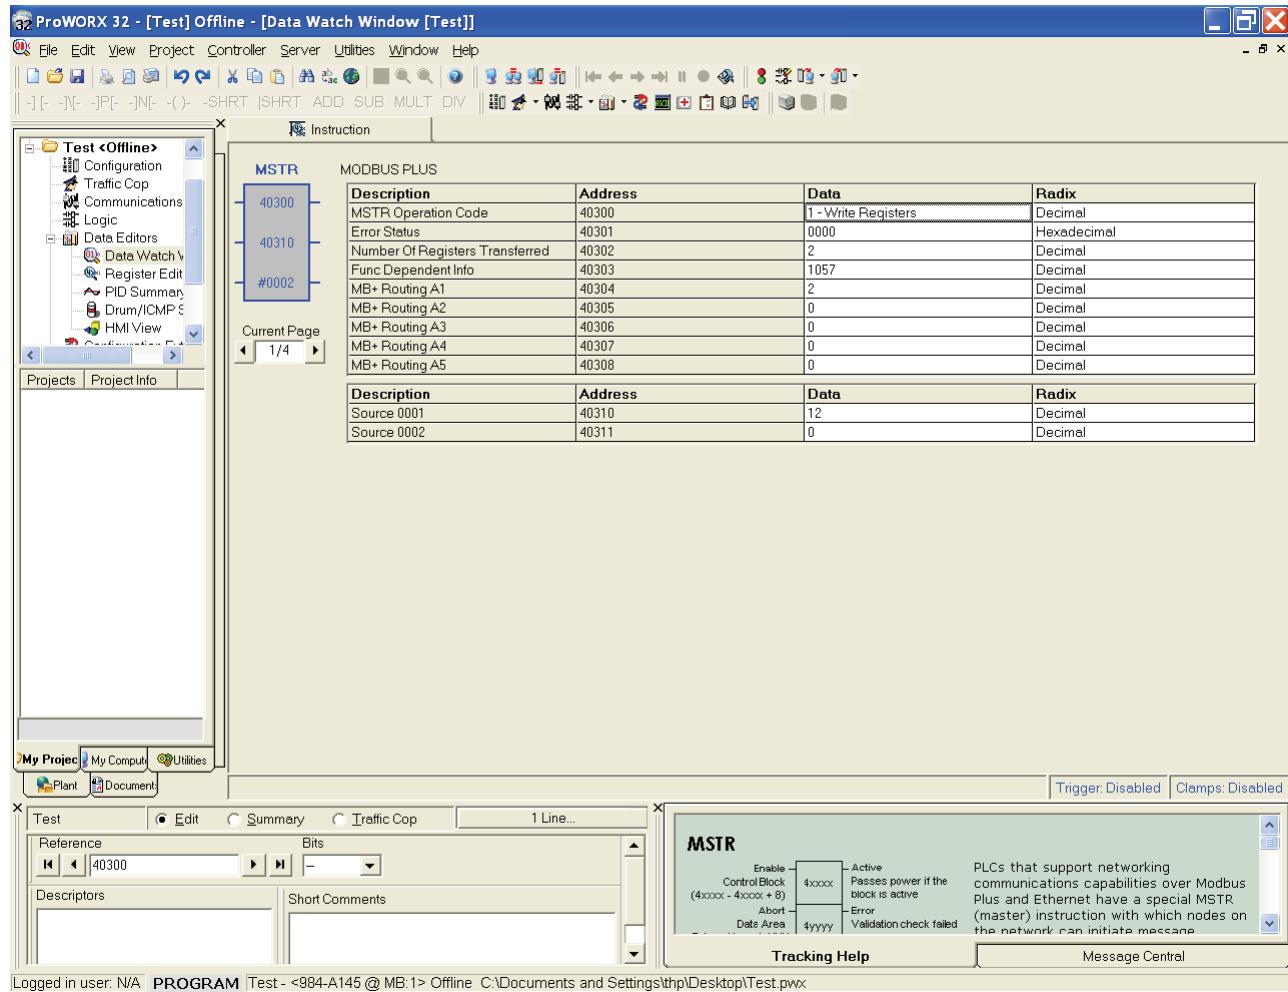
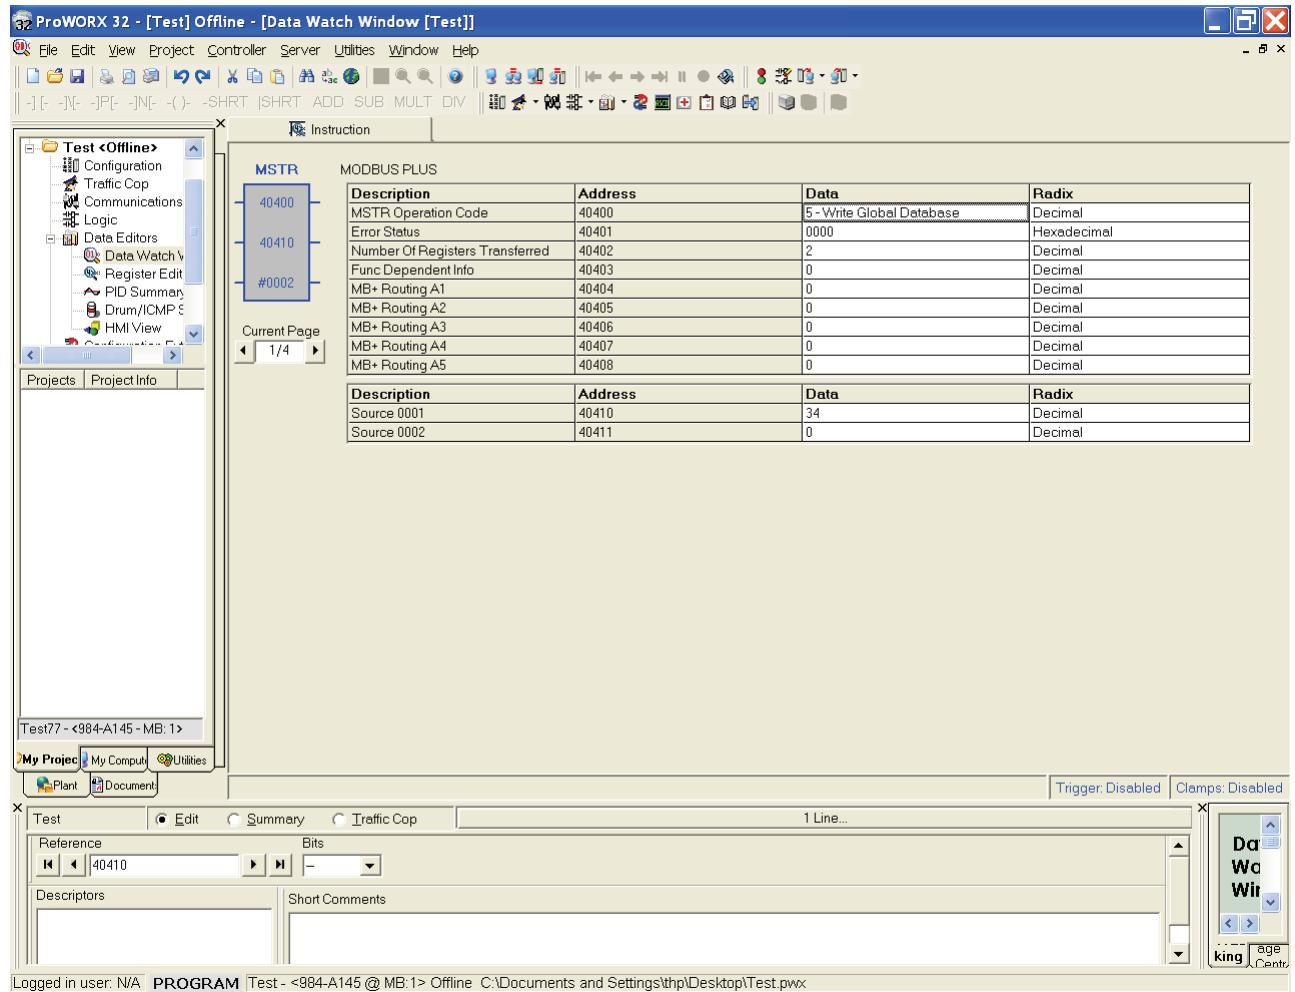

Figure 29 Writing Peer-To-Peer Data.
Figure 30 Writing Global Data.
The window above shows the data from the PLC represented as Global ① and Peer-To-Peer Data ②. The data values are corresponding to the data values seen in Figure 29 Writing Peer-To-Peer Data. and Figure 30 Writing Global Data.